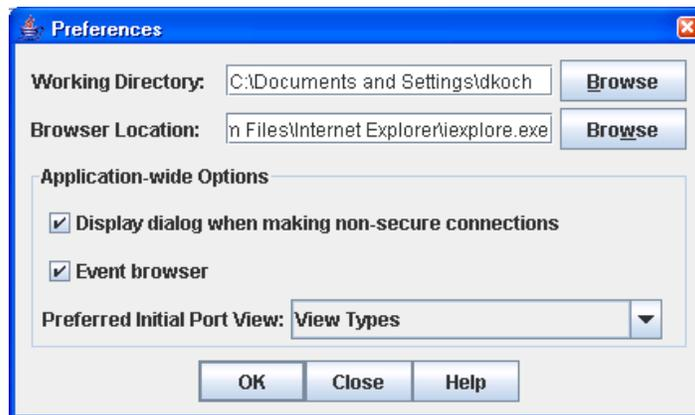

Figure 4. Preferences dialog
- Enable (default) or disable the Event Browser. See "Event Browser" on page 3-18. If the Event Browser is enabled using the Preferences dialog as shown in Figure 4, the next time QuickTools is started, all events will be displayed. If the Event Browser is disabled when QuickTools is started and later enabled, only those events from the time the Event Browser was enabled and forward will be displayed.
1. Open the File menu, and select **Preferences** to open the Preferences dialog (Figure 4).